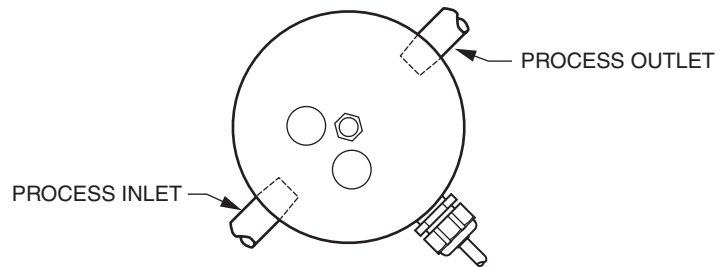

Figure 2. Bottom View, Electrode Assembly
1. Install the sensor assembly at a 45° angle with the process inlet down and the outlet up. The inlet should be the process connection port that is closest to the electrodes (see Figure 2). The upward slope of the flow path encourages any bubbles that form to be swept up and out by water flow.
6. Attach process inlet and outlet plumbing as required to satisfy the application. Attach process inlet and outlet plumbing using the ½-inch FNPT ports in accordance with Mounting Instructions and Figure 2.